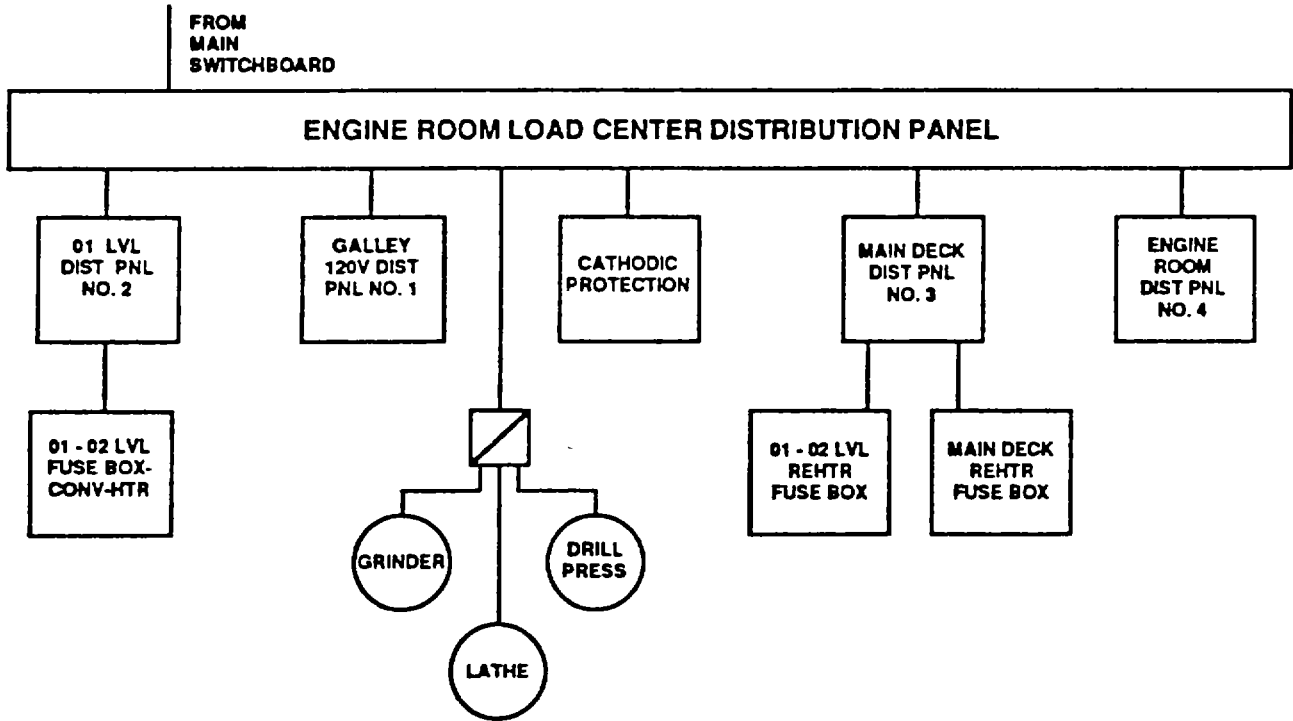

Figure 1-8. Main Switchboard (Sheet 2 of 2).
(1). Main switchboard. The main switchboard (Figure 1-8), located in the EOS, provides generator selection, shore power selection, and power distribution for ship service 450 Vac.